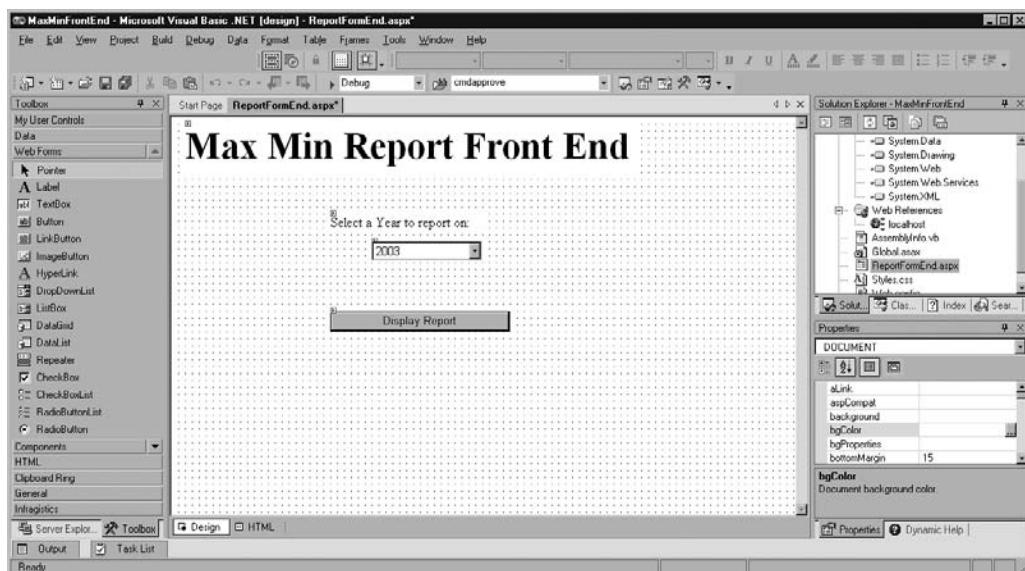

Figure 18-14 The Report Front End form
2. Place two labels, one drop-down list, and a button on the web form, as shown in Figure 18-14.